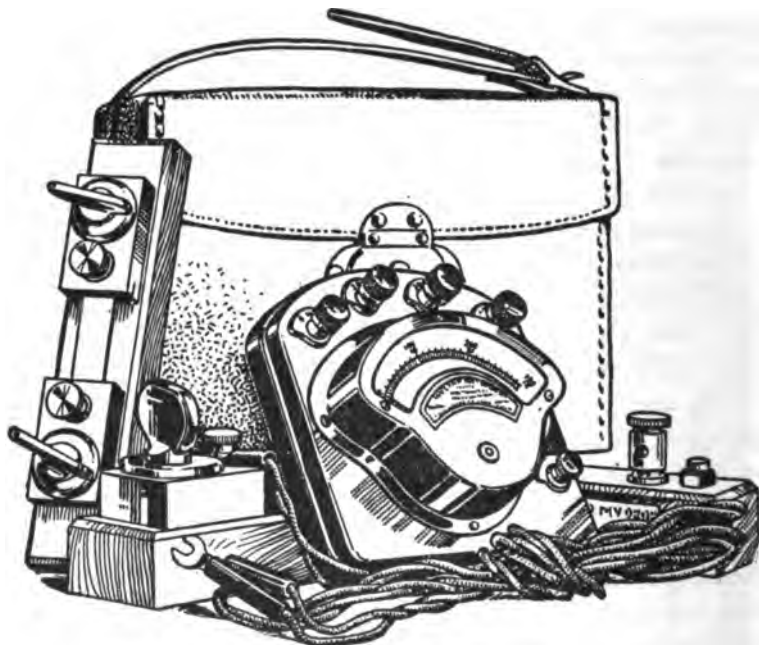

Fig. 214. Portable Combination Volt-Ammeter for Testing
*Special Testing Instruments.* For the garage that claims to be fully equipped to give all necessary attention to the electrical system of the modern car, something more than the simple lamp testing outfit is necessary. Portable volt-ammeters such as shown in Fig. 214 are made specially for this purpose. This is a Weston combination volt-ammeter, the voltmeter being provided with a 0-30, 0-3, and 0 to  $\frac{1}{10}$  scales for making voltage tests, together with three shunts having a capacity of 0-300, 0-30, and 0-3 amperes, respectively, which are used in connection with the  $\frac{1}{10}$ -volt scale for making current measurements. A special set of calibrated leads for use with these shunts is also provided. With the aid of such an outfit, accurate tests can be made covering the condition and performance of every part of a starting-lighting and ignition installation. For example, a starting system may be otherwise in perfect working condition, but its operation causes